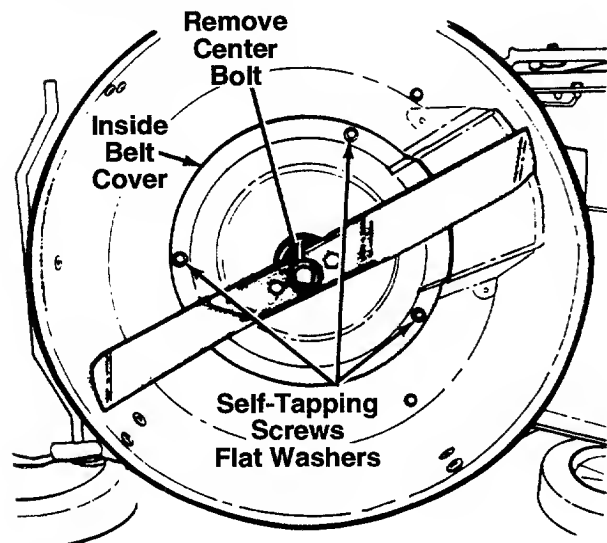

FIGURE 12.
5. Remove the center bolt which secures the blade to the crankshaft. See figure 12. Remove the blade and blade adapter.
6. Remove the inside belt cover by removing three self-tapping screws and flat washers. A 3/8" wrench is required. See figure 12.